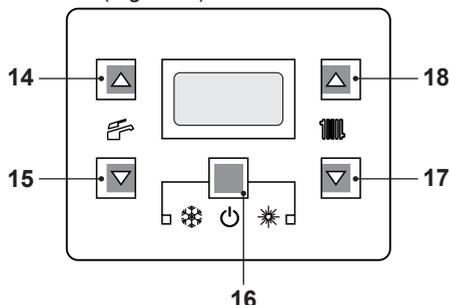
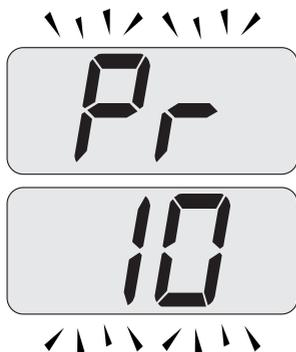

Fig. 8.22
Fig. 8.24
- Enter the "programming mode" by sequentially pressing keys 16 - 17 - 18 (Fig. 8.22) for 10 seconds at the same time until the letters **Pr** that alternate with code **01** are displayed
- Scroll the various parameters using keys 17 or 18 until the letters **Pr** that alternate with code **10** are displayed on the LCD display, indicating that "parameter 10" (Fig. 8.24) has been activated.
- Press keys 16 and 18 (Fig. 8.22) at the same time until the value of parameter 10 (30=180 seconds) is displayed on the LCD display (Fig. 8.25).
- By pressing key 16 (Fig. 8.22) confirmation of the inserted value is obtained.
- Press keys 16 and 17 (Fig. 8.22) at the same time to exit without changing the value (return to the parameters list Fig. 8.24).
- Press sequentially keys, 16 - 17 and then 18 (Fig. 8.22) and hold in for 10 seconds to exit the "programming mode".